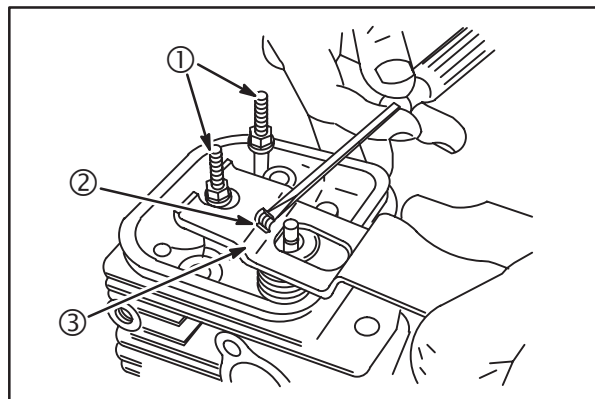

Fig. 7
2. Compress valve spring and retainer with Valve Spring Compressor (3) #19347, **Fig. 7**.
3. Remove valve spring retainer locks (2).